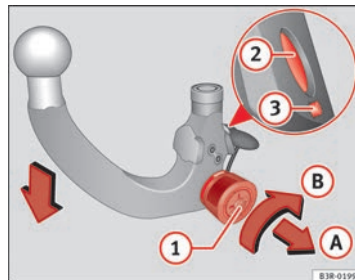

Fig. 155 Removable towing bracket: Setting the spring mechanism to the "ready" position
- Insert the key (1) ⇒ fig. 155 in the lock on the knob and turn it towards the red marking.